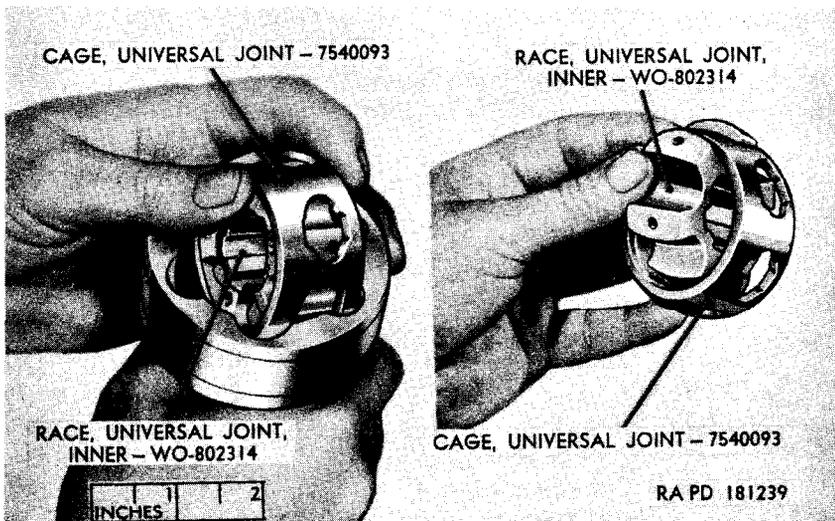

Figure 103. Removing front axle universal joint cage.
- (3) *Remove universal joint cage and inner universal joint race.* Turn the universal joint cage in the outer axle shaft so that the 2 larger elongated holes of cage are between the 2 bosses in outer axle shaft as shown in figure 103. Lift the universal joint cage and inner universal joint race from outer axle shaft.
- (4) *Remove inner universal joint race from universal joint cage.* Turn the inner universal joint race in the universal joint cage so that 1 of the bosses on the inner universal joint race can be dropped into 1 of the 2 elongated holes in universal joint cage as shown in figure 103. Separate inner universal joint race from universal joint cage.
- (1) *Install inner universal joint race in universal joint cage* (fig. 103). Position universal joint cage horizontally. Hold inner universal joint race vertically and insert it in universal joint cage, dropping one of the race bosses into one of the larger elongated holes of the cage. When inner universal joint race is in universal joint cage, turn race so that it is entirely in cage.
- (2) *Install inner universal joint race and universal joint cage in outer axle shaft* (fig. 103). Aline the two larger elongated